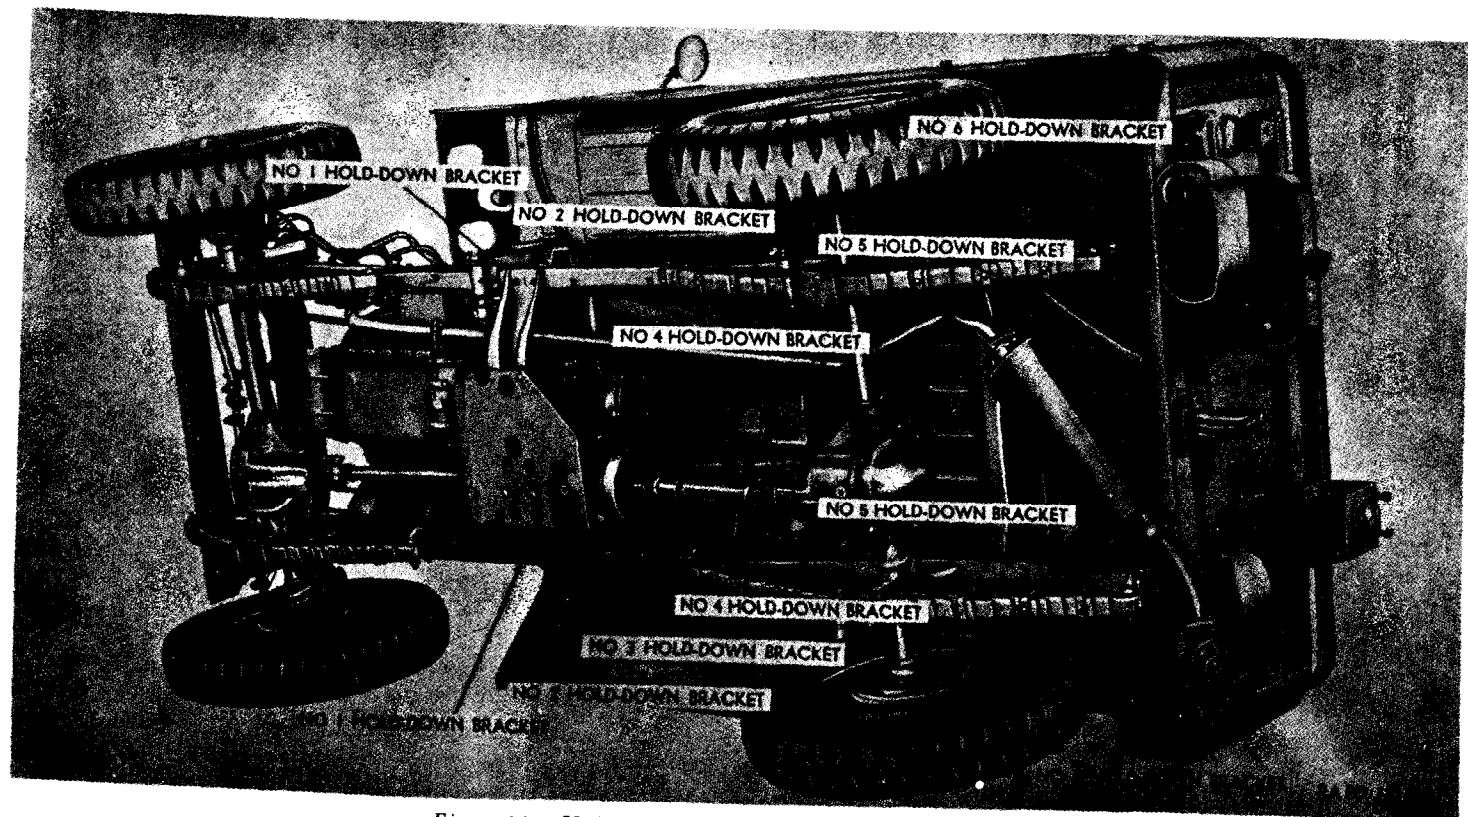

Figure 22. Underside of body, showing holddown brackets.
d. Disconnect Body From Frame. Refer to figure 22 for general location of body holddown brackets and other disconnect points at bottom of body. Figures 23 and 24 illustrate the points in detail.